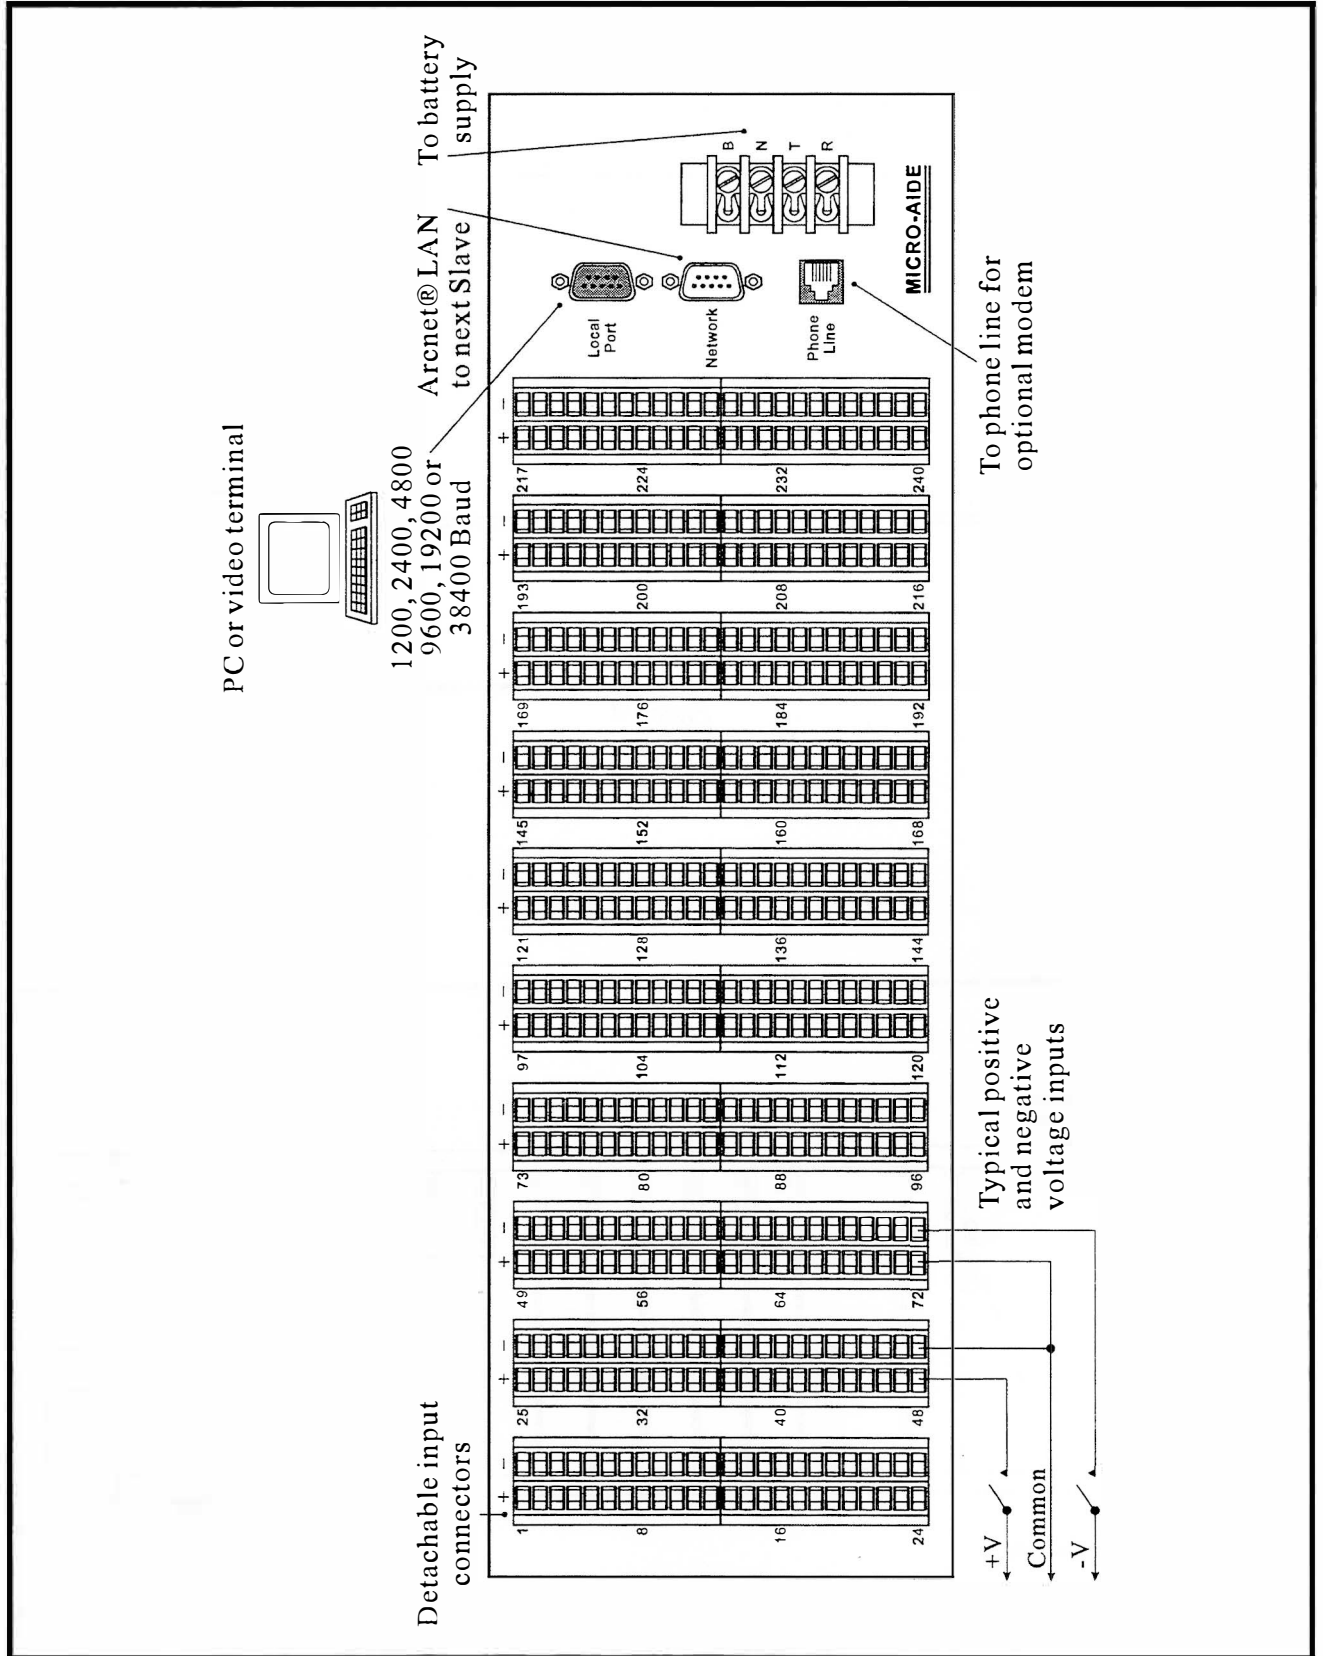

Figure 3
- Connect the power source ground to the screw terminal at the rear of the unit labeled “N”. Connect the positive voltage of the power source to the screw terminal at the rear of the unit labeled “B”. Refer to Figure 3.
- Using the cables provided by MICRO-AIDE, cable from the DB-9 connector on the master labeled “Network” to the DB-9 connector labeled “Network In” on the first slave unit. “Daisy-chain” the remaining Model 240S units by cabling from the port labeled “Network Out” to the port on the next slave labeled “Network In”. The last slave will have a single cable. Figures 3 and 6 illustrate the location of the network connectors.
Installation of the Model 240M/S is very straightforward. The following sections describe the recommended installation procedure. Figures 3 and 6 illustrate the rear panels of the Model 240M and Model 240S. The figures show the location of all connectors and screw terminals.